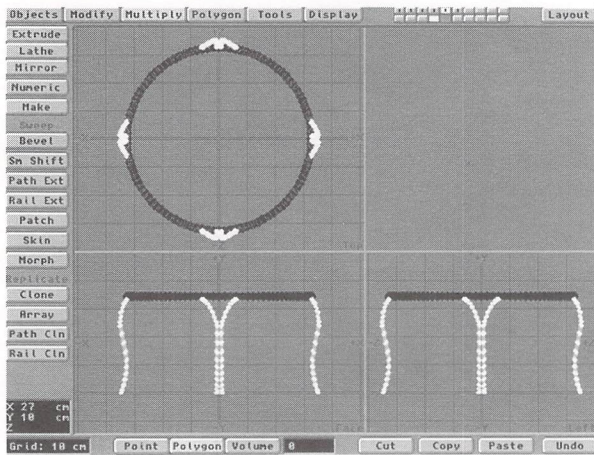

Figure 4
- Hit the Clone button (Multiply) to bring up the Clone requester. Enter three for the number of clones and 90 degrees for the rotation on the Y-axis. All other settings should be left at the default. Click OK, and the leg will be cloned three times at equal spacing around the table (Figure 4).